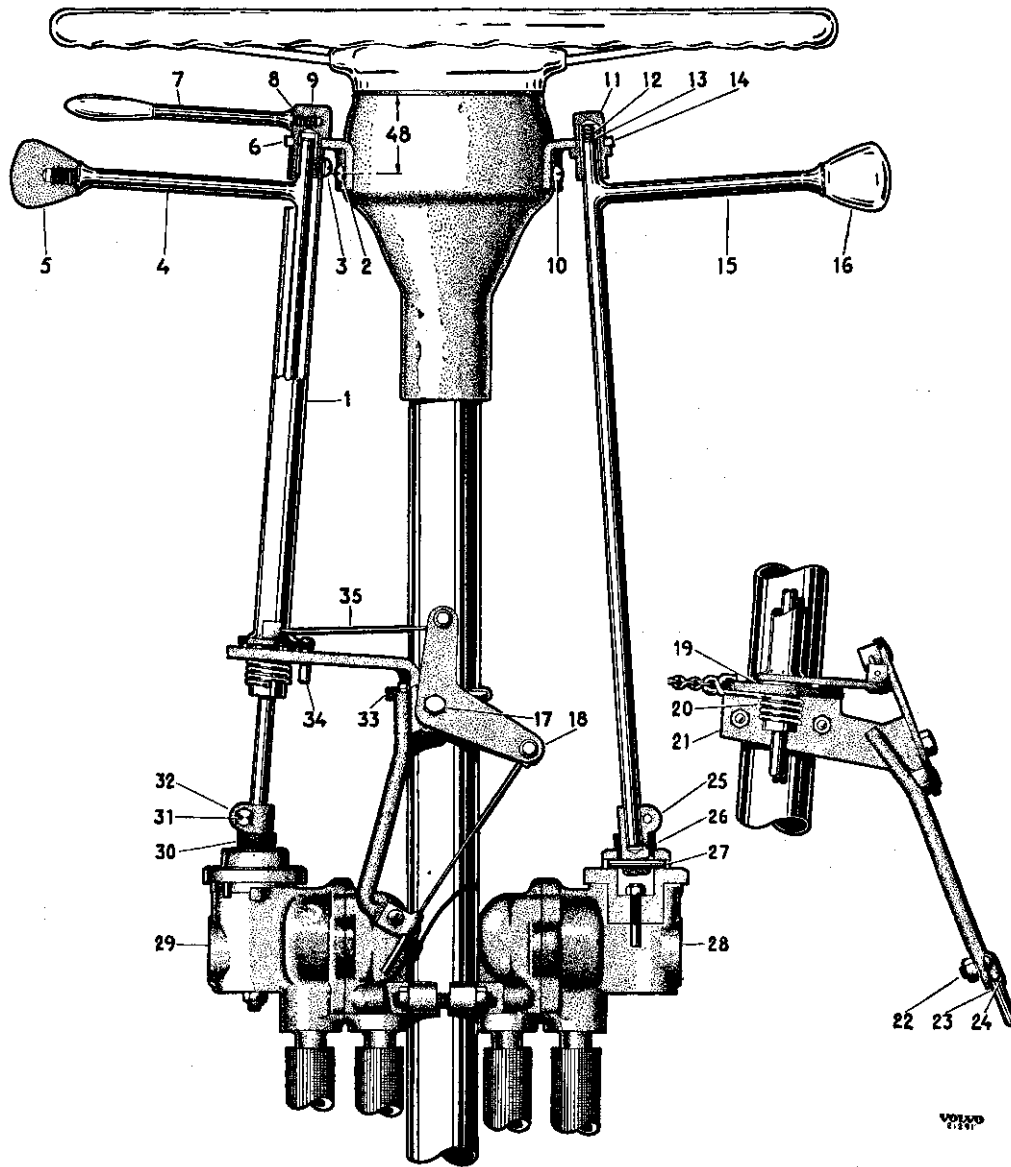

Fig. 4. Levers and valves.
Fitting is shown in Fig. 4. If only part of the complete equipment is to be fitted then study the relevant parts of the illustration.
- ner (4). This is pushed into the hole, a washer is fitted on the inside and the retainer is riveted into position. These fitting instructions are concerned with a Carter carburettor. If, however, a Zenith carburettor is fitted then the lever arm should be replaced by that included in the equipment.
4. Attach the support (5) for the throttle wire onto the valve housing by means of the rear bolt on the housing.
5. Fit a flexible protector sheath and take this in the flattest curve possible between the above-named support (5) and the clamp (24, Fig. 4) on the bracket. This sheath is taken, if possible through the same hole as the choke control. The sheath is attached by means of clamps, screws and spring washers.
6. Thread the wire (7) through the sheath and attach it to the lever arm on the carburettor and the lever arm (18, Fig. 4) on the steering column. This wire should be free of the sheath between the support on the valve housing and the wire retainer on the carburettor lever arm as shown in Fig. 6. When the accelerator pedal is used the wire should be bent downwards and used as a return spring for the throttle flap. If a small kink is made in the centre of the free part of the wire, it may be bent downwards in the available space. The position of the wire in both cases is shown in Fig. 7 and Fig. 8.
7. In order to ensure automatic return of the throttle, there is a return spring (20, Fig. 4) mounted on the shaft. This is arranged so that the spring may easily be hooked and unhooked by means of the chain. Fit the spring to the shaft and hook on the chain and ring as shown in Fig. 9.